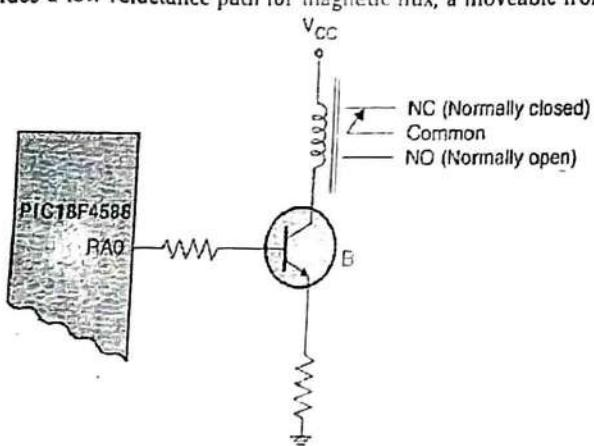

Fig. 7.6.1: Interfacing relay with 8051 diagram
- Fig. 7.6.1 illustrates the symbol of relay and interfacing of a relay with 8051. Simply making the pin '0' or '1' will switch ON/OFF the relay.